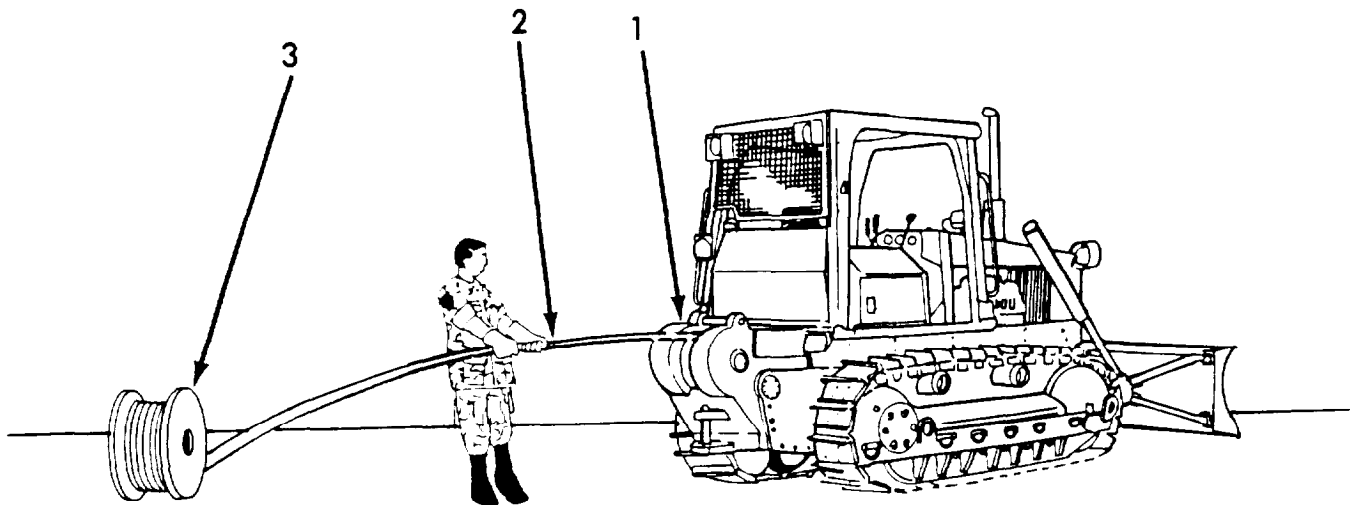

Figure 2.
4. Maintain tension on the cable (2) as it is being unspooled from the spool (3) and wind onto the drum (1). Each turn is to be guided as close to the preceding turn as possible, so there are not gaps between turns. To produce smooth layers start the rope against the flange of the drum and keep tension on the line while unspooling from the spool. (Refer to Figure 2).
5. Continue to wind all cable (2) onto drum (1)